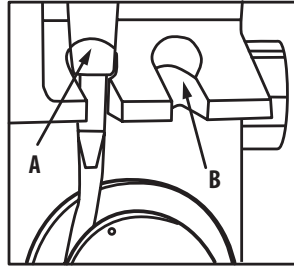

Figure 4B
11. Inspect lens in **Optix** lock area (B). Clean any contaminants from lens before proceeding to the next step (Figure 4B).